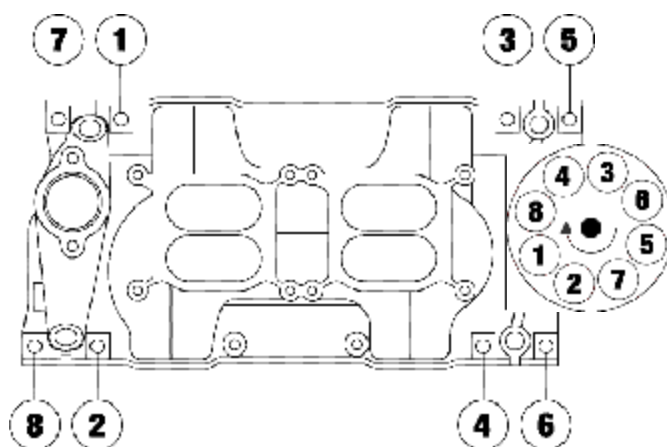

Figure 1 - 262-400 c.i.d. Small Block Chevy Torque Sequence
6. Torque all of the manifold bolts in two steps by the sequence shown in Figure 1 to 11 ft/lbs.